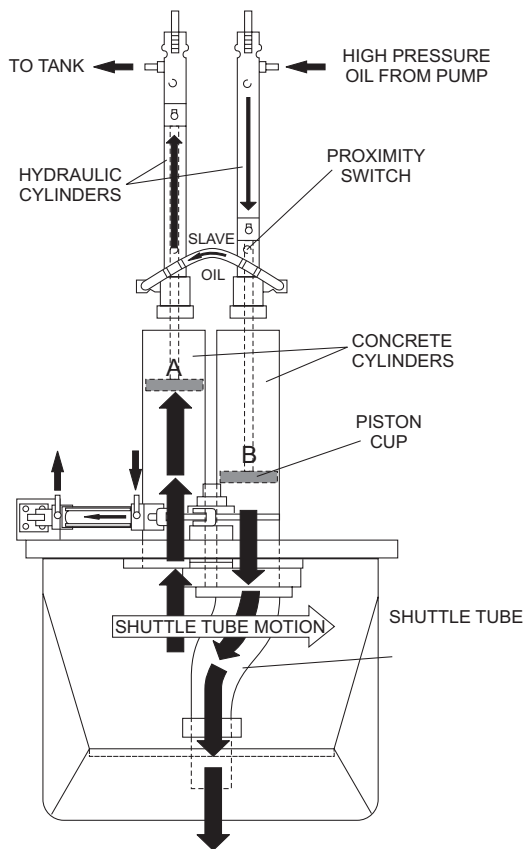

Figure 3. Pumping Cycle 1
In the first cycle (Figure 3), hydraulic pressure is applied to cylinder (B), causing the hydraulic piston, which is connected to the concrete piston and piston cup, to discharge concrete into the delivery line.